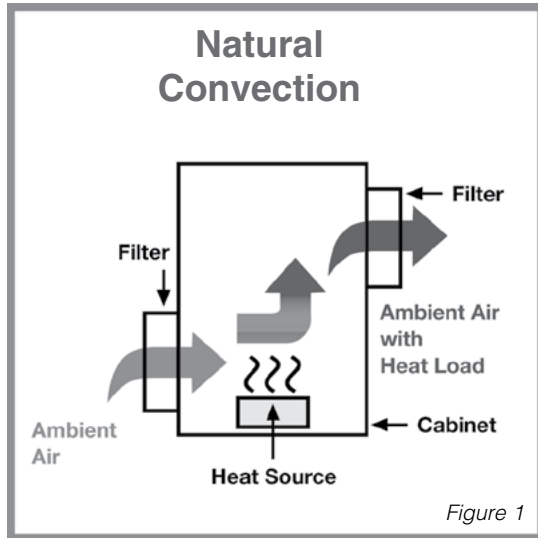

Figure 1
- 1. Natural Convection** — If there is only a minimal heat gain in your circumstance, use of louvers or grilles with filters can be effective. This method, however, usually provides less cooling effect than is necessary with today’s components (Fig. 1, pg. L15).